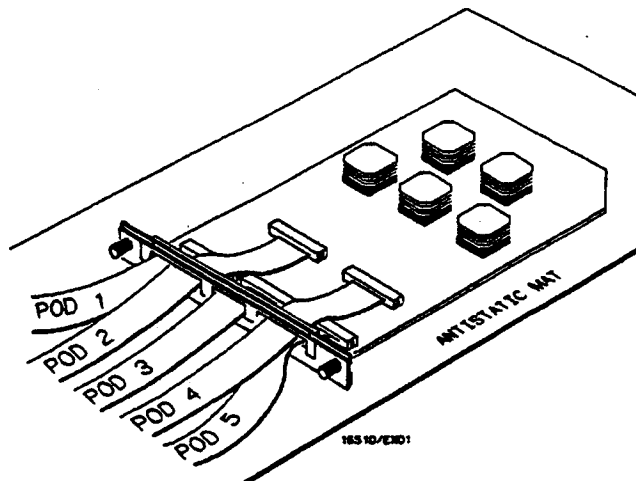

Figure 2-2. Cable Position
- d. Lay the cable(s) flat and pointing out to the rear of the card. See figure 2-2.